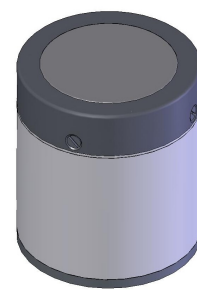

Figure 4
5. Locate the Protection Ring (B) over the Ceramic Retaining Ring (C) and Ceramic Disc (A) and secure evenly with 4 screws (F) (Figure 4).